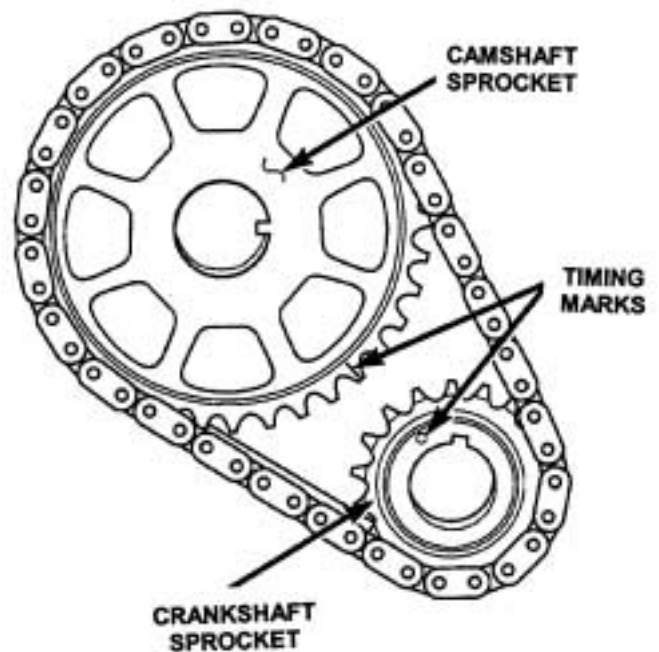

Figure 14
31. Rotate the crankshaft until the crankshaft sprocket timing mark is aligned on centerline with the camshaft sprocket timing mark (Figure 14).
39. Align the timing marks as shown in Figure 14 and install the camshaft sprocket, crankshaft sprocket and timing chain.
41. To verify the correct installation of the timing chain, turn the crankshaft two full revolutions, then position the camshaft sprocket timing mark as shown in Figure 14.